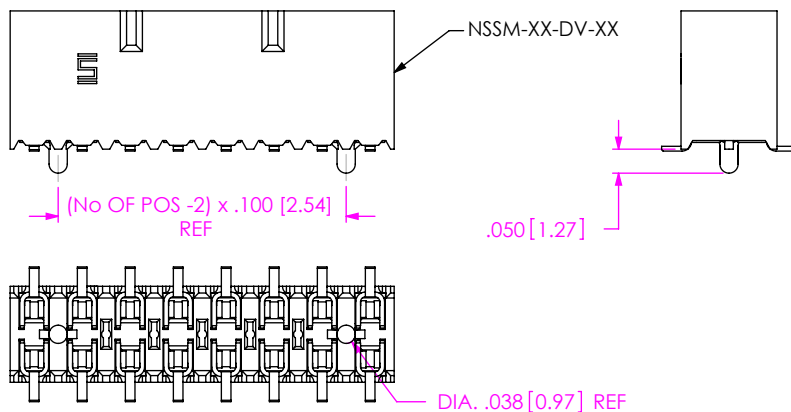

FIGURE 3
- A: ALIGNMENT PIN (SEE FIG 3, SHT 2) (MOLDED: USE NSSM-XX-DV-XX, 4 POS MIN)